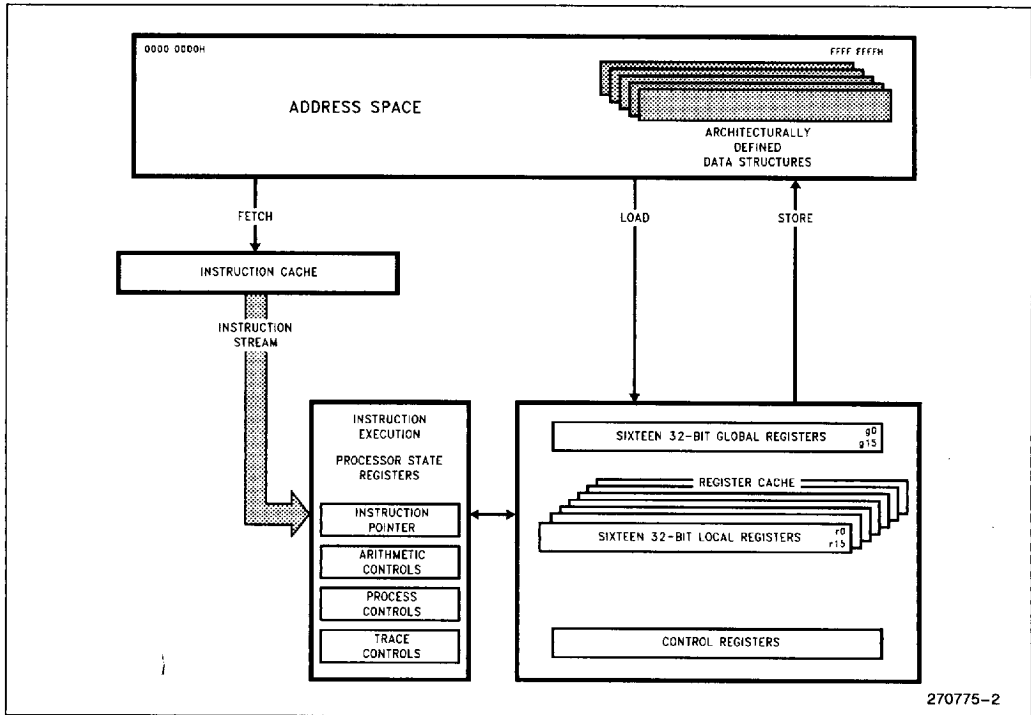

Figure 2. 80960KA Programming Environment
1. **Large Register Set.** Having a large number of registers reduces the number of times that a processor needs to access memory. Modern compilers can take advantage of this feature to optimize execution speed. For maximum flexibility, the 80960KA provides thirty-two 32-bit registers. (See Figure 2.)